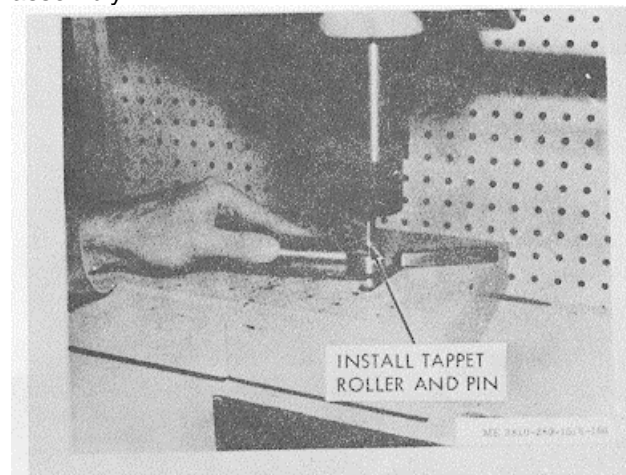

Figure 3-160. Roller and pin installation.
(2) Insert 0.006 in. shim between side of roller and tappet; press pin through tappet and roller with lockwire in pin. Make sure lockwire seats in groove of tappet. (fig. 3-160)